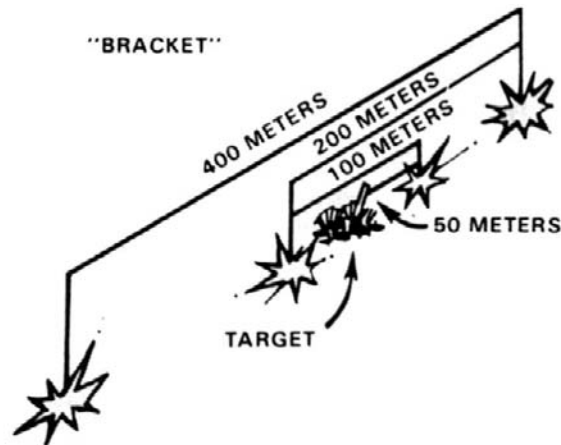

Figure 5
- c. When the first range spotting is observed, make a range correction that would result in a range spotting in the opposite direction. For example, if the first round is short, add enough to get an over on the next round. This is called successive bracketing (Figure 5). Figure 6 shows the impact of your initial round. Since the round is beyond the target, you must drop. You estimate that the round is 250 meters beyond the target. Therefore, you must drop 400 meters to start successive bracketing procedures. The round impacted 50 mils left of the target. With an OT factor of 2, the round impacted 100 meters left. Your correction to the FDC is "RIGHT 100-DROP 400-OVER".